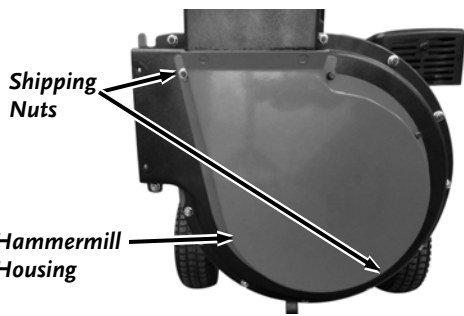

Figure 5
1. Remove the two shipping nuts that are temporarily securing the Hammermill Housing to the Power Unit using a 1/2" Wrench (**Figure 5**). Discard the nuts.